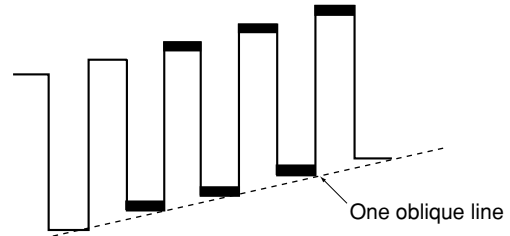

Fig. 3-3
2. Use the volume keys on the jig remote control to adjust so that the bottom edges of waveform are in one oblique line, referring to Fig. 3-3.